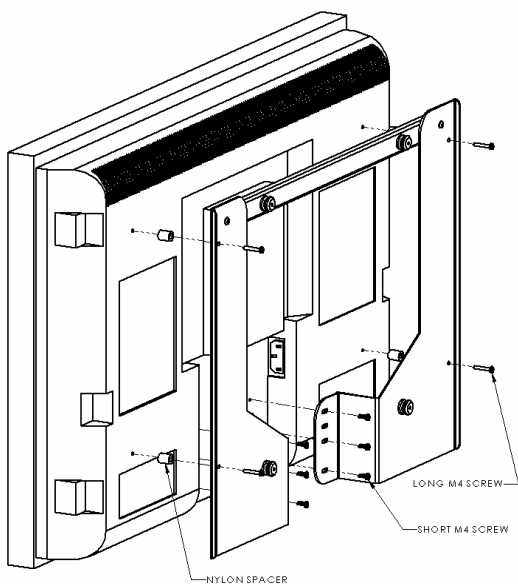
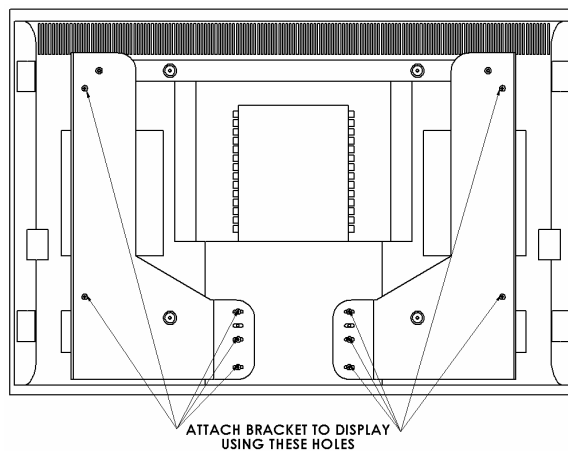

Figure 5
Figure 6
4. Place Nylon spacers over mounting holes on back of screen. Attach mounting brackets to display using M4 screws (see Figures 5 & Figure 6).